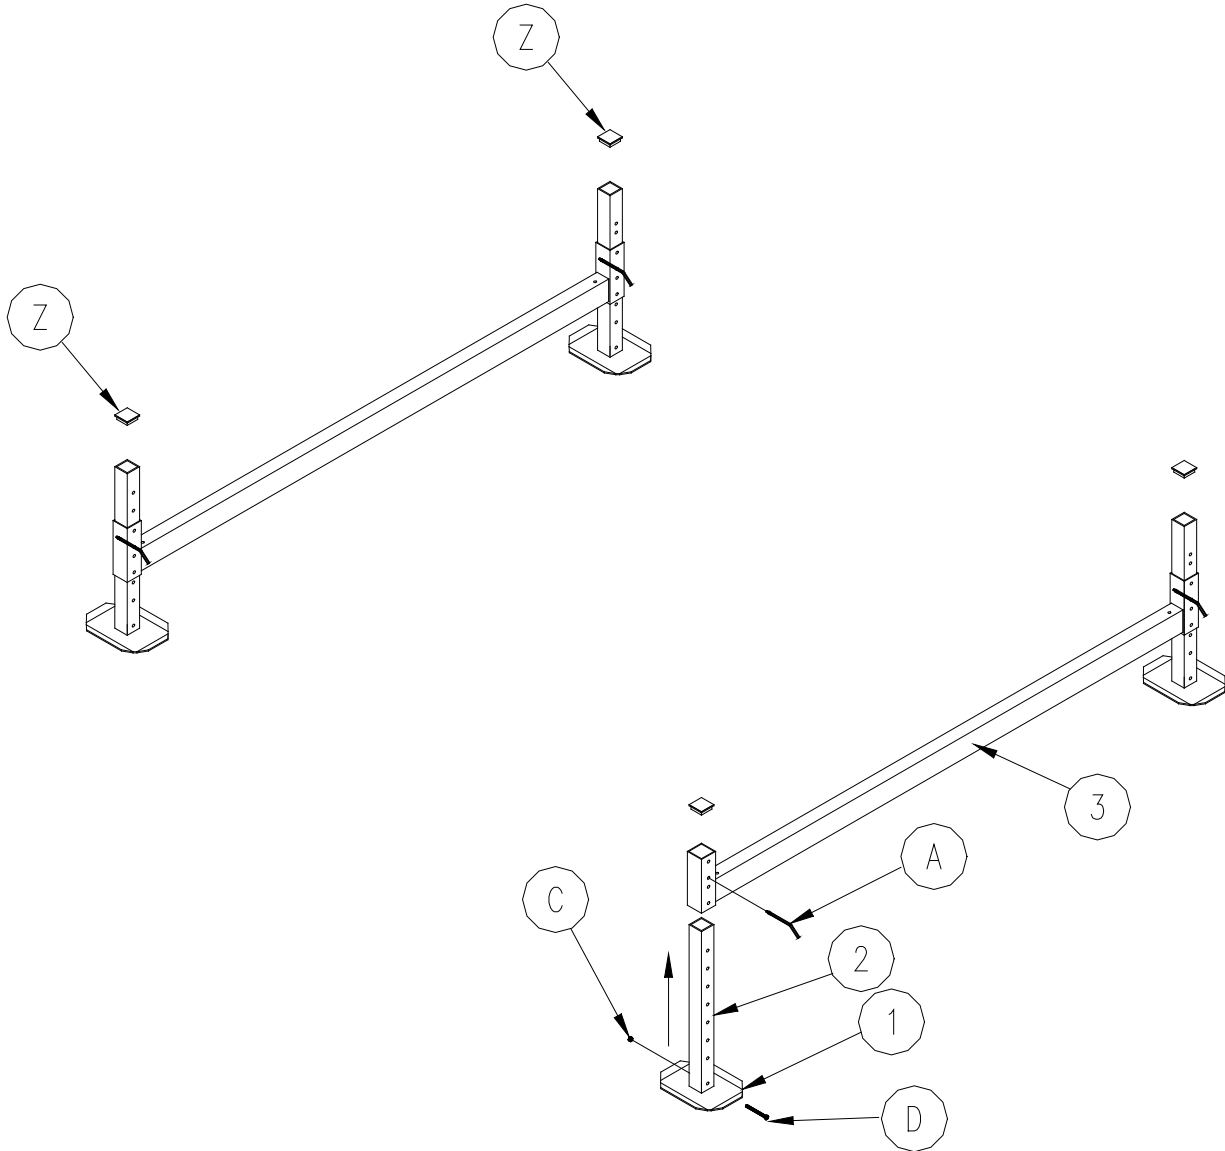

Figure 3-1.
1. Refer to Figure 3-1. Fasten foot plate (1) to extension leg (2) using hardware (C) and (D).
2. Insert foot plate and extension leg assembly into leg assembly (3). Insert leg pin and clip (A) to secure.
3. Install the four plastic cap plugs (Z) onto ends of the extension legs.